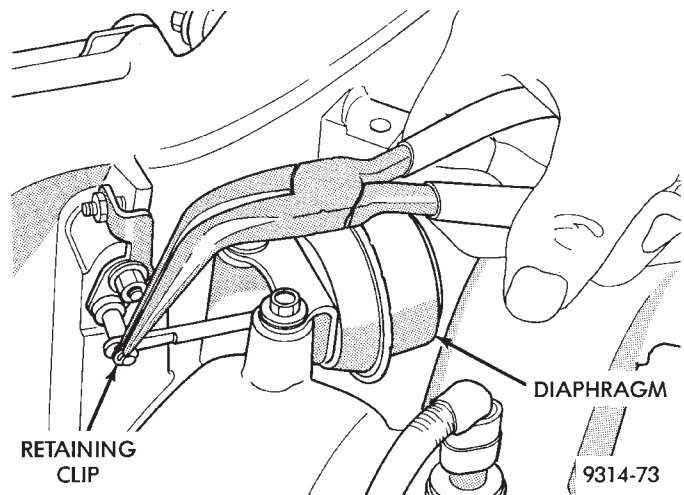

Fig. 76 Retaining Clip
- (3) Remove retaining clip from manifold tuning valve arm (Fig. 76).
- (4) Remove manifold tuning valve mounting screws. Remove tuning valve vacuum motor.